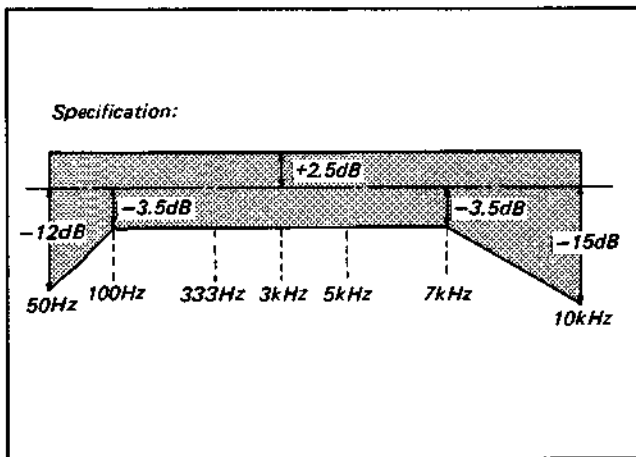

Fig. 4-5-1. Overall frequency characteristic check
(1) Set the oscillator frequency to 333 Hz and adjust the AUDIO terminal level with the attenuator for -25 dB.
(2) Record the signal.
(3) Change the oscillator signal to 50 Hz, 100 Hz, 3 kHz, 5 kHz, 7 kHz and 10 kHz.
(4) Record the signals.
(5) Play back the recorded signals.
(6) Ensure that the output levels are within the specified values. (See Fig. 4-5-1.)